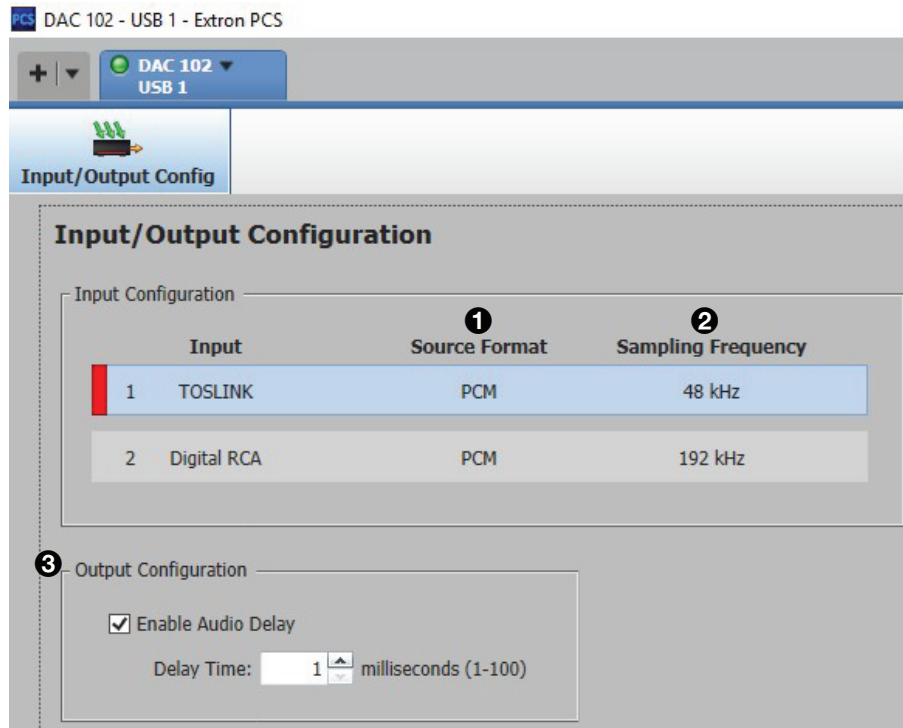

Figure 9. DAC 102 Main Menu
Source format tells what type of audio signal is coming in through the respective input (see figure 9 on the next page, ①).
Sampling frequency details the frequency of the signal (see figure 9 on the next page, ②).
The DAC 102 allows its user to configure audio delay (see figure 9 on the next page, ③). Audio delay can be enabled and have its delay time customized from zero milliseconds (default) to 100 milliseconds.